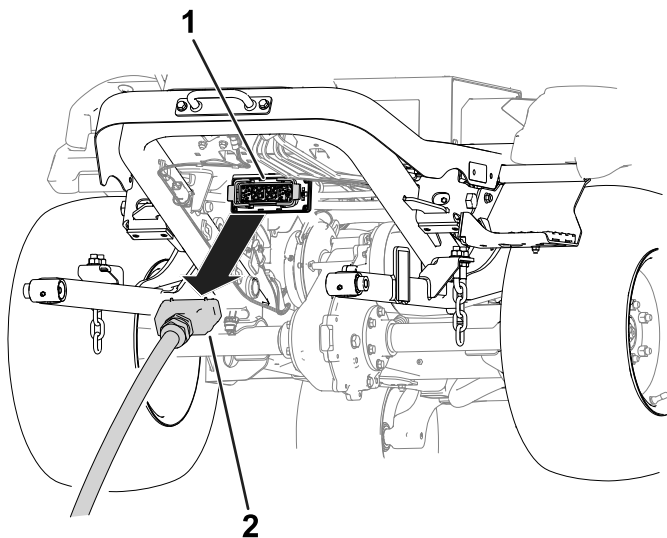

Figure 20
5. Disconnect the cutting-unit connector from the machine connector (Figure 20).